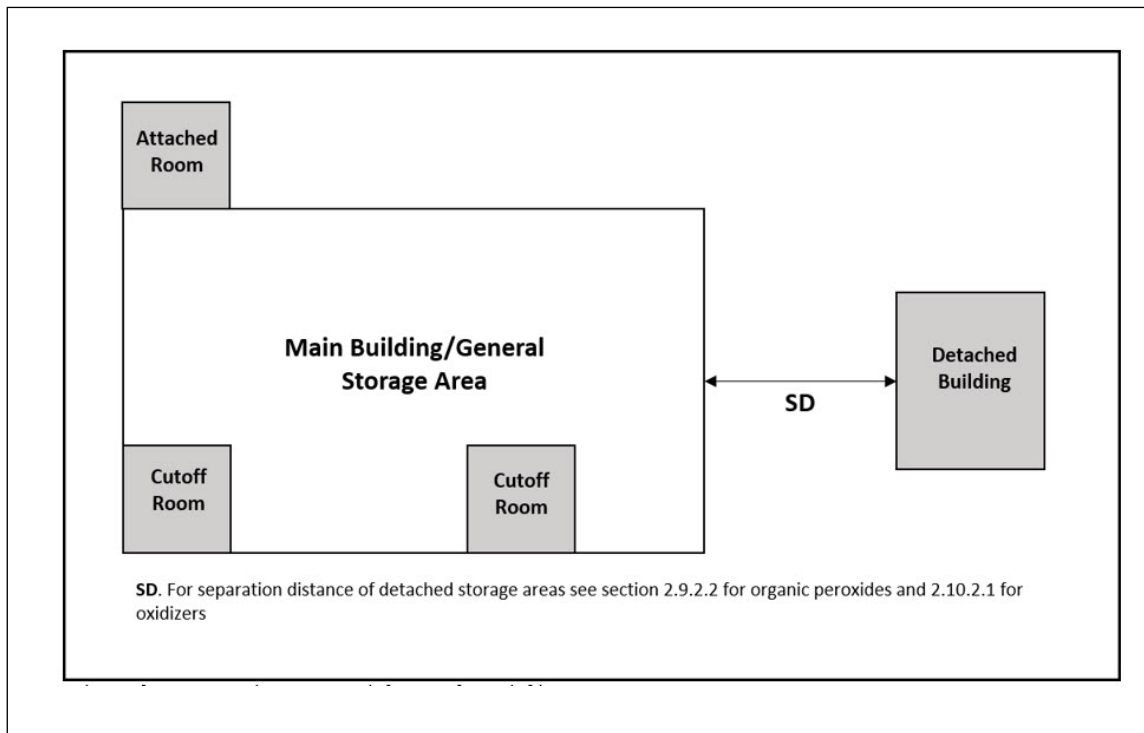

Fig. 1. Organic peroxide and oxidizer storage areas
2.2.1 Locate and construct cutoff, attached, and detached organic peroxide and oxidizer storage areas in accordance with Figure 1, plus Section 2.9.2 for organic peroxides and Section 2.10.2 for oxidizing materials.